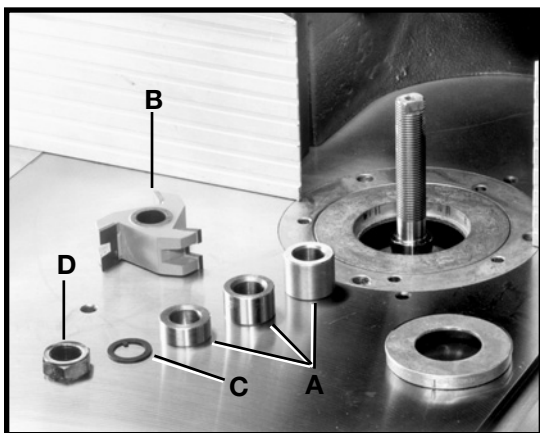
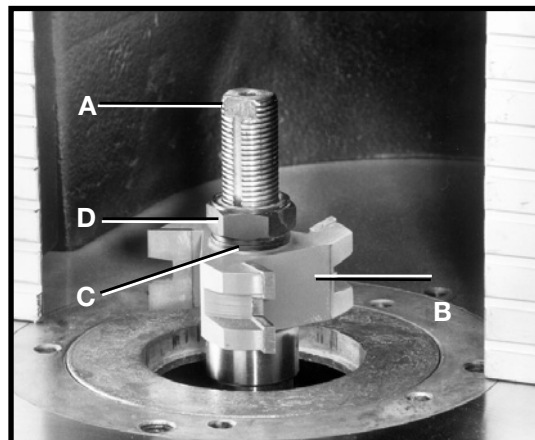
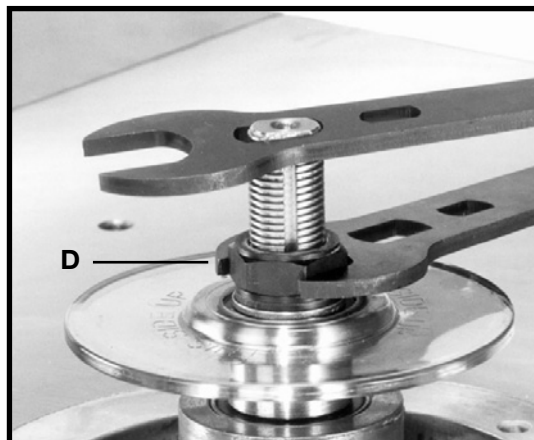

Fig. 14
Fig. 15
Fig. 16
1. Three different collars (A) Fig. 14 are supplied with these shapers. The collars allow the cutter and/or the 4-1/2" diameter spindle guard to be positioned at various locations on the spindle.
3. Determine which, if any, collars are needed. Then attach the cutter (B) Fig. 15, keyed washer (C), and spindle nut (D) (Figs. 14 and 16). Place one wrench on the flats (A) on top of the spindle and one wrench on the spindle nut (D). Tighten as shown in Fig. 16.
4. **IMPORTANT: Always place "keyed" washer (C) Fig. 15 on spindle before screwing on nut (D). The "keyed" washer (C) prevents the nut (D) from loosening when the spindle turns counterclockwise.**